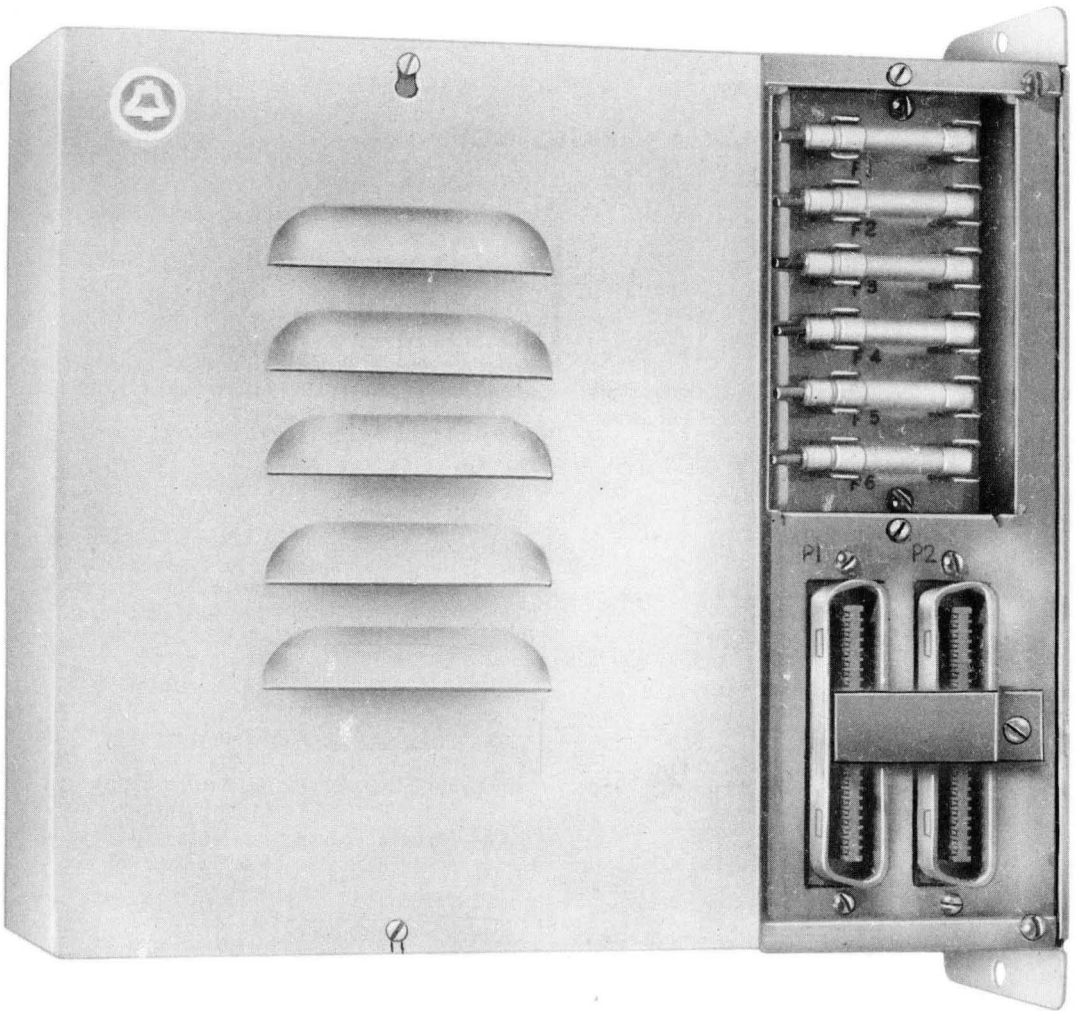

Fig. 1—110A Apparatus Mounting (With Cover)
1.01 This section provides identification, installation, and connection information for the 110A apparatus mounting (Fig. 1) used in the 1A2 Key Telephone System (KTS).
- Mounting, Apparatus, 110A (Fig. 1)
- Recessed fuse panel reveals 70-type fuses through a clear plastic cover. To replace fuse, remove cover by loosening two securing screws. See Fig. 1 and Table B.